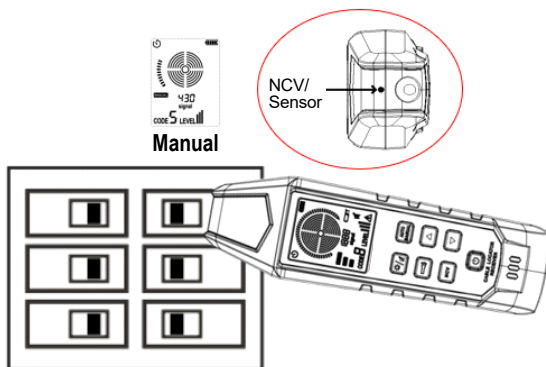

Figure 10.2.3b Align the dot screen printing to the circuit breaker
2. Align the dot screen printing (on the top of the receiver) to the circuit breaker, as shown in Figure 10.2.3b.